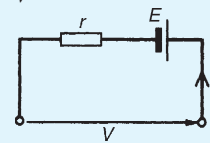

Figure 13.90
- For the circuit shown in Fig. 13.90, the internal resistance  $r$  is given by: